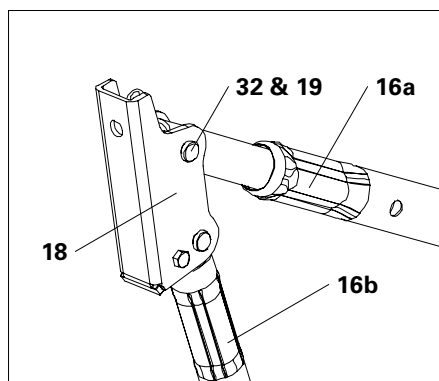

Fig. B5.02c
3. Secure push-pull props (16) in the base plate (18) using 1x Bolt \varnothing 20 x 140 (32) each and Cotter Pins 4/1 (19). (Fig. B5.02c)